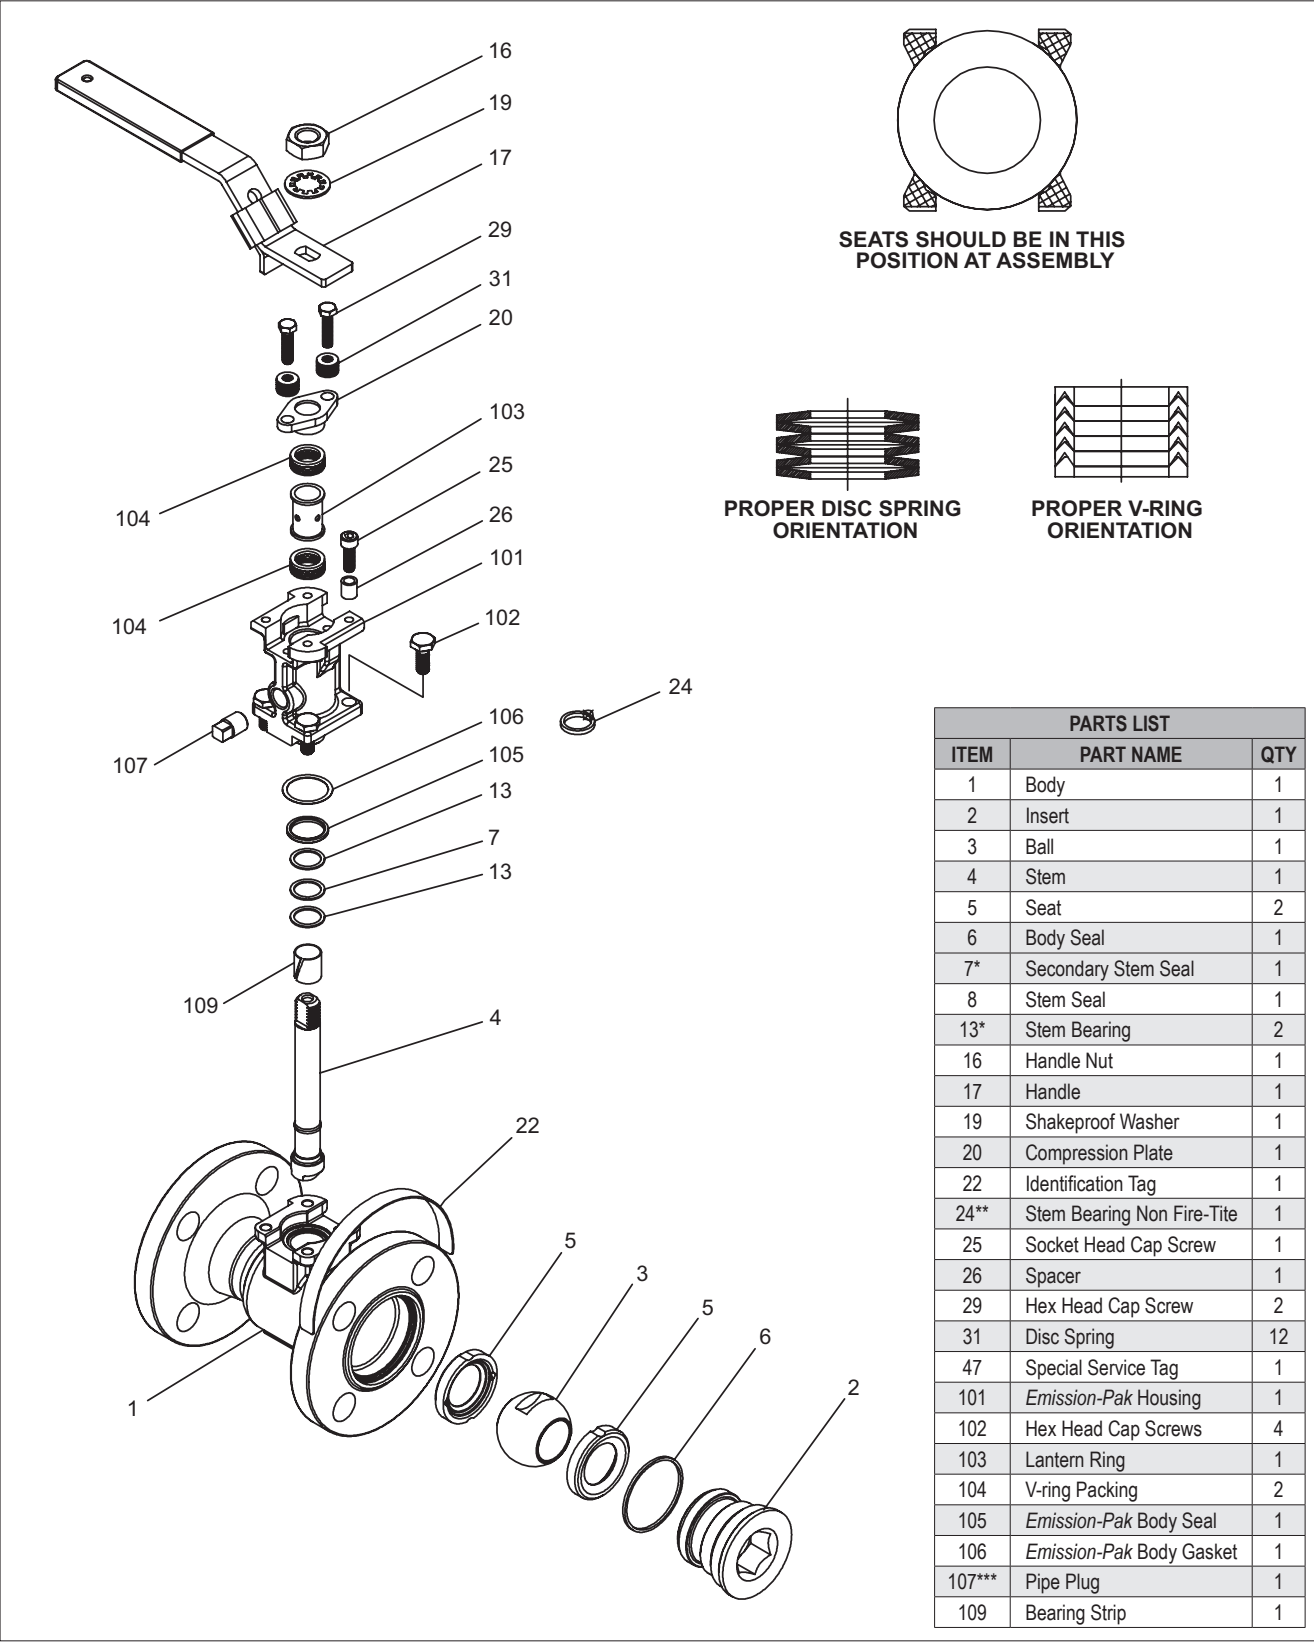

Figure 1.
4. Place the stem bearing (24) and bearing strip (109) on the stem (4). **NOTE:** Fire-Tite valves have 2 stem bearings (13) and a secondary stem seal (7) as shown in **Figure 1**.
6. Hold stem (4) in place and slide compression plate (20) over stem.
7. Place the disc springs (31) on the hex head cap screws (29). Disc spring orientation is shown in **Figure 1**. Install the hex head cap screws through the compression plate and bring them down hand tight.
8. Place the *Emission-Pak* body seal (105) in bore of body (1) as shown in **Figure 1**. Place *Emission-Pak* body gasket (106) in bore of body (1) as shown in **Figure 1**.
9. Insert *Emission-Pak* housing (101) into stem bore of body, being careful not to pinch *Emission-Pak* body gasket (106). Insert 4 hex head cap screws (102) through *Emission-Pak* housing into threaded holes in body (1). Tighten per torque in **Table 5**. Apply torque evenly, alternating in a crisscross pattern.
10. While pulling the stem (4) outward, tighten the hex head cap screws to the torque provided in **Table 1**. Apply torque evenly, alternating between the two cap screws so that the compression plate will be parallel with the valve body bonnet.
11. Align the stem to the ball slot. Insert the ball (3) so that the internal stem blade fits into the ball slot.
12. Insert the second seat (5) with the flat facing up. Insert the body seal (6).
13. Screw the insert (2) into the body (1) and tighten to the Torque listed in **Table 2**.
14. Install handle (17), lockwasher (19) and handle nut (16) and tighten to torque listed in **Table 3**.
- c. From **Figure 1**, the ballooned part number, part name and quantity required.